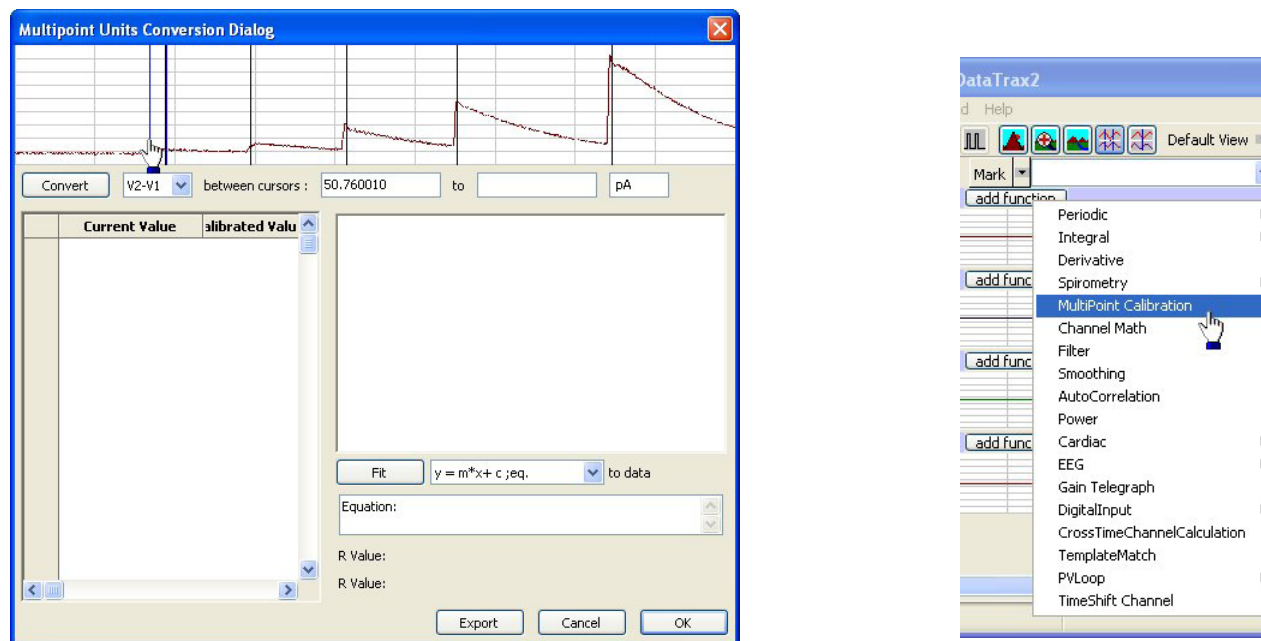

Fig. 45—Multipoint Units Conversion dialog box
- Click the **Add Function** button that is located above the channel to be calibrated, and choose **Multipoint Calibration (Right)**. The **Multipoint Units Conversion** dialog box appears (Fig. 45). The data points of interest include the “zero” point and the peaks after each injection of SNAP.
Figure 45 shows the raw data recording of NO on the **TBR4100** in channel 1 and the calibrated comparison beneath it. If desired, the graph can be filtered or smoothed.